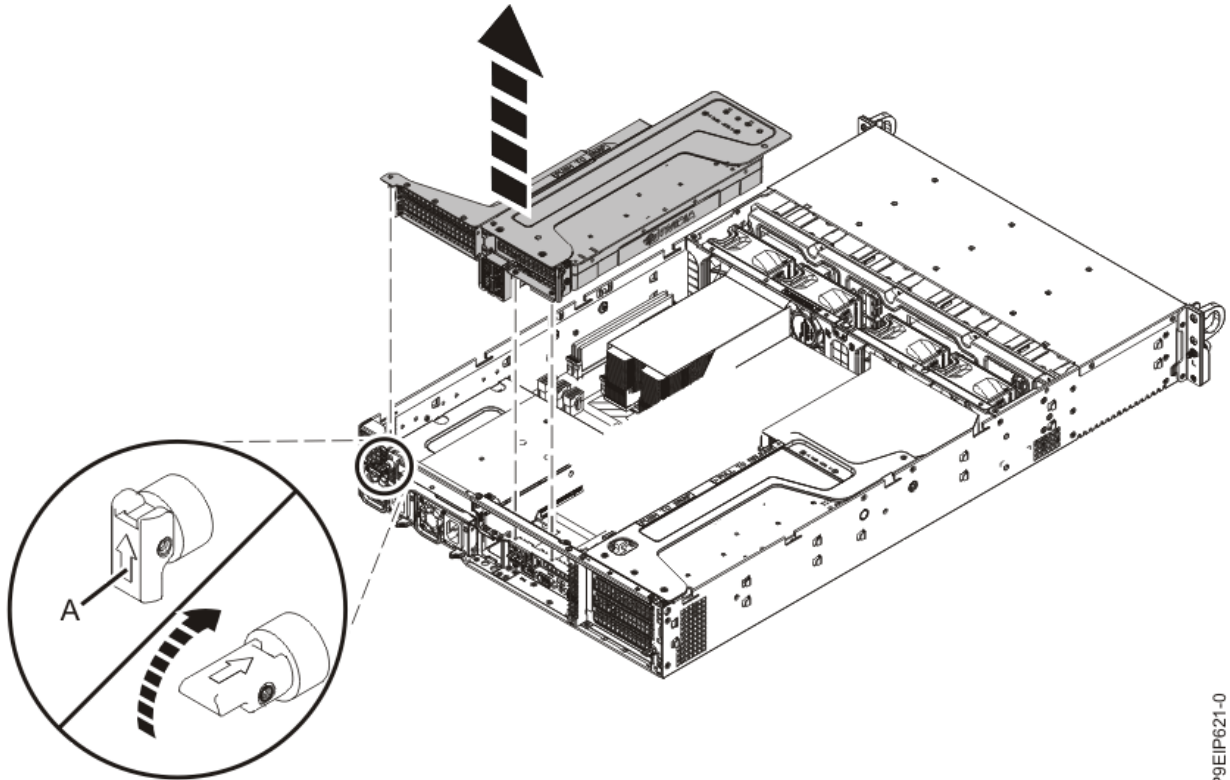

Figure 16. Removing the PCIe riser
3. For an adapter in position 0, 1 or 2, remove the PCIe riser as shown in Figure 16 on page 21.